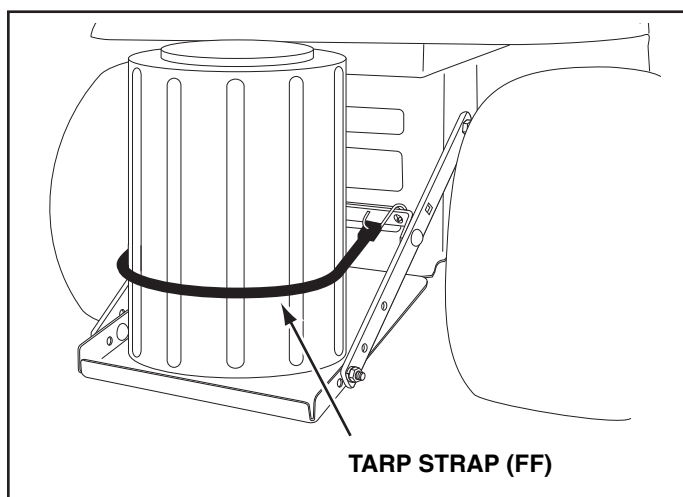

FIGURE 62
STEP 64: (SEE FIGURE 62)
- Secure the keg with the rubber tarp strap (FF) hooked into the holes in the cross brace.